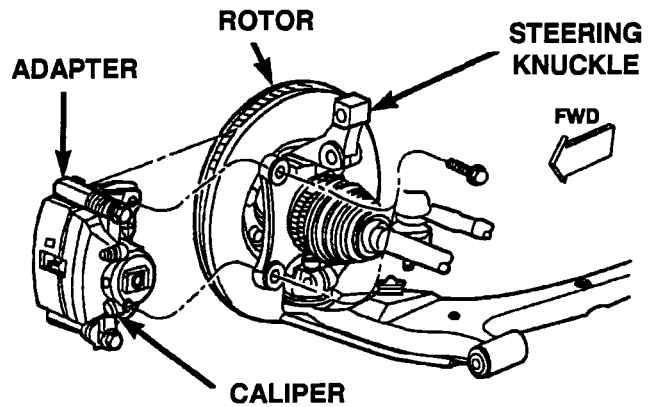

Figure 2
4. Remove the two (2) bolts that secure the disc brake caliper adapter to the steering knuckle (Figure 2).
35. Install the brake caliper and adapter assembly over the brake rotor (Figure 2).
36. Install the caliper adapter bolts (Figure 2). Tighten the bolts to 60 ft-lbs (80 N·m).